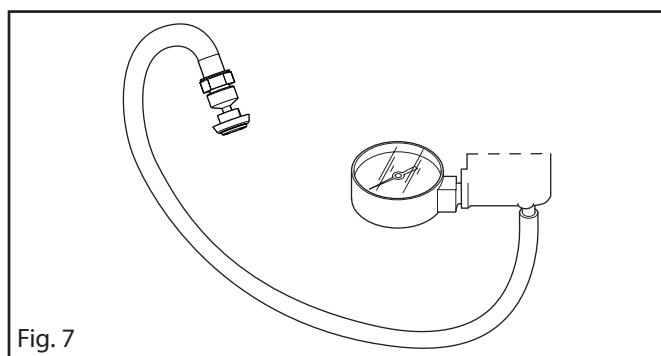

Fig. 7
7. Pressure test the decompression valve as follows (see figure 7):